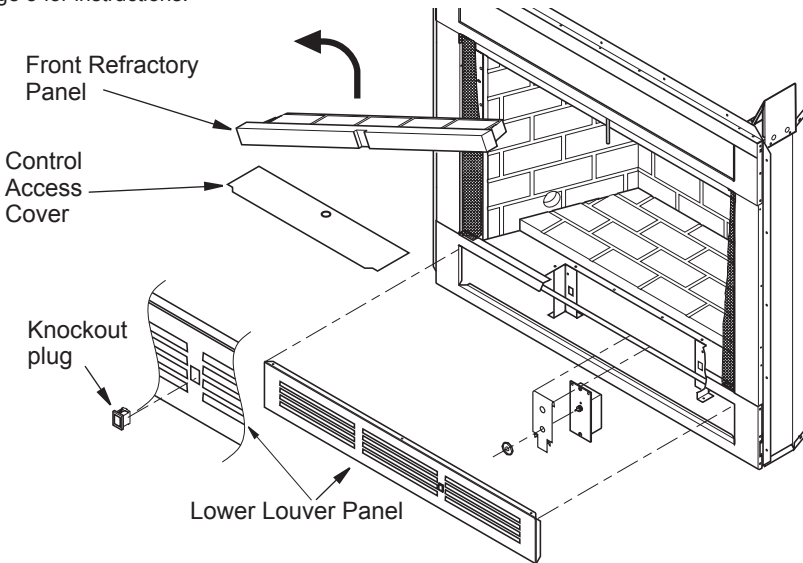

Figure 1: Accessing Blower Compartment (Controls Not Shown for Clarity) B-vent, Wood and Vent-Free Models
The BK blower can be installed in wood burning, B-vent and vent-free model fireplaces. Both the BK and BKT blowers can be installed in direct-vent model fireplaces. Blowers are installed by accessing the blower compartment through the lower louver panel or, on some models, through the control access cover under the front refractory panel (see Figure 1). The lower front louver panel can be removed easily, see *removing louver panel*, page 3 for instructions.
For models other than direct-vent, remove panel or stamped face louver by snapping out the front with a flat blade screwdriver (see Figure 1, page 2). Use caution not to scratch any surfaces. These panels can also be removed by inserting fingertips between slots and gently pulling out. **DO NOT FORCE.** The panels are actually held in place by means of a retention dimple embossed on the edge of the panel. To reinstall, place louver into cavity and push gently.
- Remove knockout plug from louver panel by depressing top and bottom retaining clips (see figure 1, page 2).
- Remove knockout plug from louver panel by depressing top and bottom retaining clips (see Figure 1, page 2).